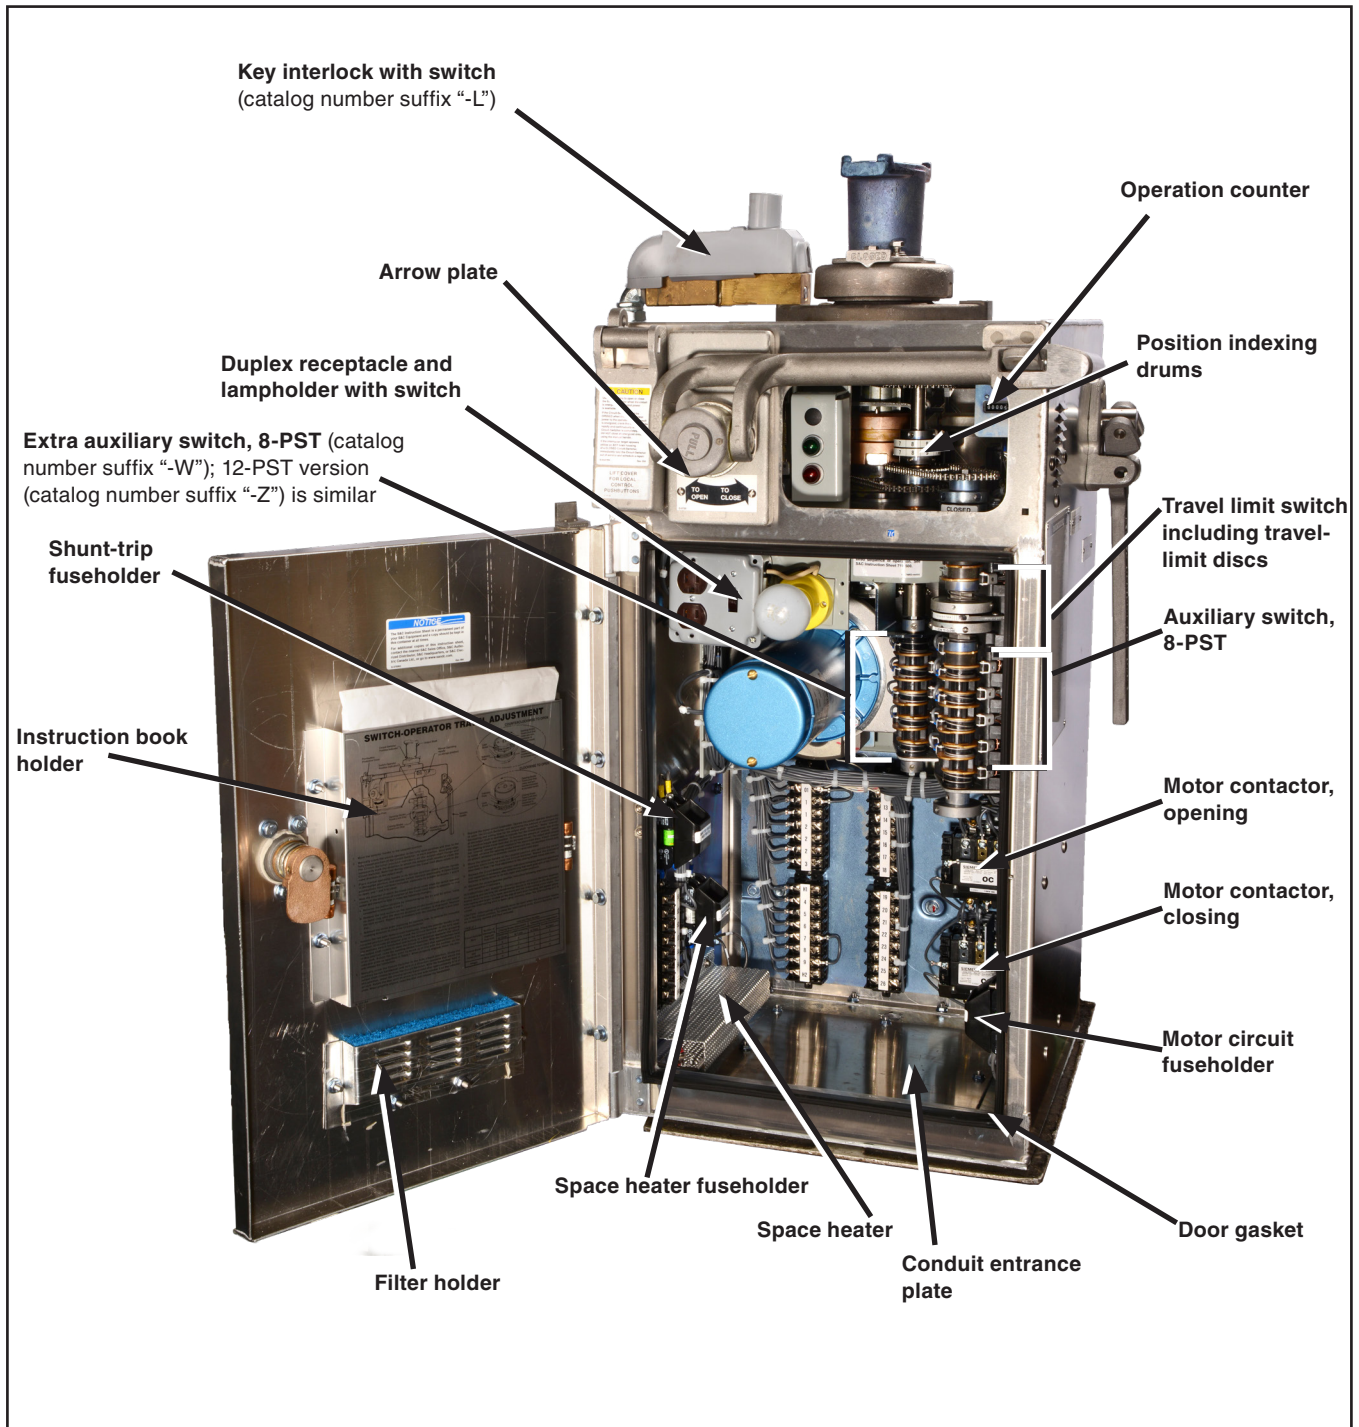

Figure 3. An interior view of a Type CS-1A Switch Operator with the door open.
To avoid accidental energizing of the operator after the external connections have been completed, remove the two-pole pull-out fuseholders for the motor, space-heater, and (if applicable) shunt-trip circuits. See Figure 3 on page 9. Reinsert the fuseholders only when indicated in the steps which follow.
- STEP 1.** Mark the conduit-entrance location for the control circuit wiring on the conduit-entrance plate in the bottom of the switch operator enclosure. See Figure 3 on page 9.
If desired, during manual operation the switch operator may also be disconnected from the control source by removing the motor-circuit two-pole pull-out fuseholder located on the right-hand inside wall of the enclosure. See Figure 3 on page 9. Likewise, the shunt-trip device may be rendered inoperative by removing the shunt-trip circuit two-pole pull-out fuseholder located on the left-hand inside wall of the enclosure.
To avoid accidental energizing of the operator after the external connections have been completed, remove the two-pole pull-out fuseholders for the motor, space-heater, and (if applicable) shunt-trip circuits. See Figure 3 on page 9. Reinsert the fuseholders only when indicated in the following steps.
- STEP 4.** The cranking direction to close the circuit-switcher is indicated by an arrow plate located near the hub of the manual operating handle. See Figure 3 on page 9. This direction has been predetermined from the erection drawing for the specific installation and has been factory-set accordingly. The direction of rotation of the switch-operator motor has also been set at the factory.
- (a) Remove the motor-circuit fuseholder. See Figure 3 on page 9.